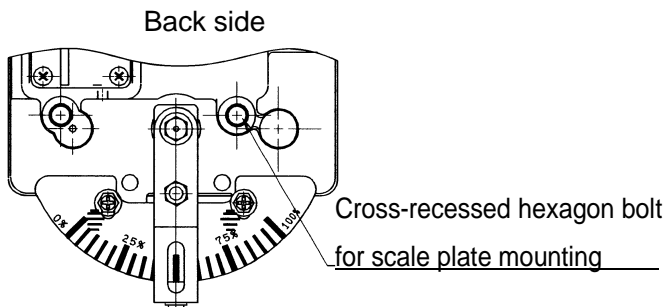

Fig.26 Scale plate (Back side)
- (3) At the end of start and stop of actuator, confirm needle points 0% and 100% of scale plate respectively. If the needle points others, position the needle by loosening cross recessed hexagon bolt holding scale plate with spanner and sliding the scale plate. (Refer to Figure 26, 27.)